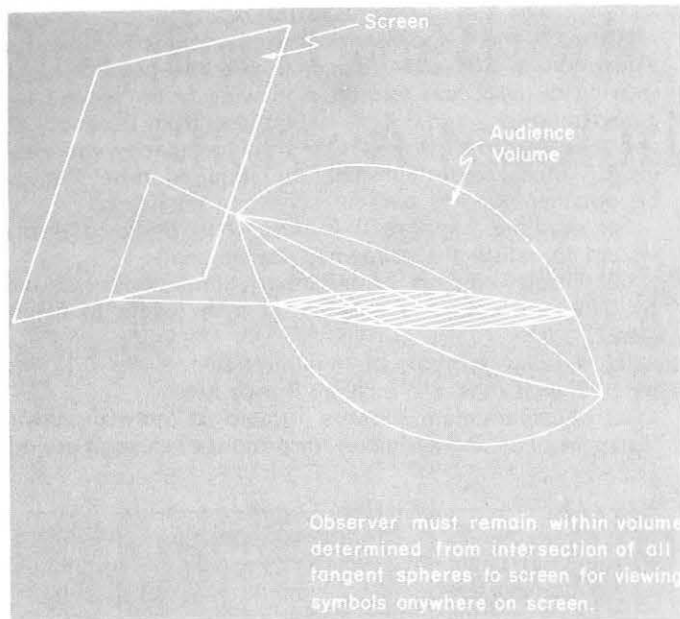

FIGURE 6: Audience volume.
The sphere is tangent to the viewing plane at the point of symbol location. For viewing symbols at any location on the screen, the viewer is constrained to the football-shaped volume determined from the intersection of all possible tangent spheres, (described by the intersection of the four spheres tangent to screen corners) as shown in Figure 6. The eye-level intersection of this volume is referred to as the audience area. As described in Reference 4, the largest audience area is obtained when the angle between the screen and audience area is tilted so that the center of the audience volume intersects a line normal to the screen at the screen's center, as indicated by the cross-hatched area in Figure 6. The equations derived in Reference 4 provide the relations for determining the audience area and screen size for this special case. The equations relating the audience area for the general case of variations in screen dimensions, height of screen above the floor, the angle between the planes containing the audience area and the screen, the resolution viewing factor, and the display capacity or resolution requirements may be obtained from Equation (8) and from Figure 7.